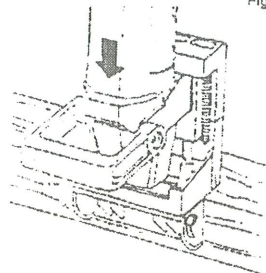

Fig.35
5. Turn tool so blade is facing down, align center line on bottom of base assembly with mark on board. Set fence so line of cut indicator matches the first slot mark, tighten screws and make first cut (Fig.35). Reset fence so line of cut indicator matches the next side mark, tighten screws and make cut. Repeat for all slots.